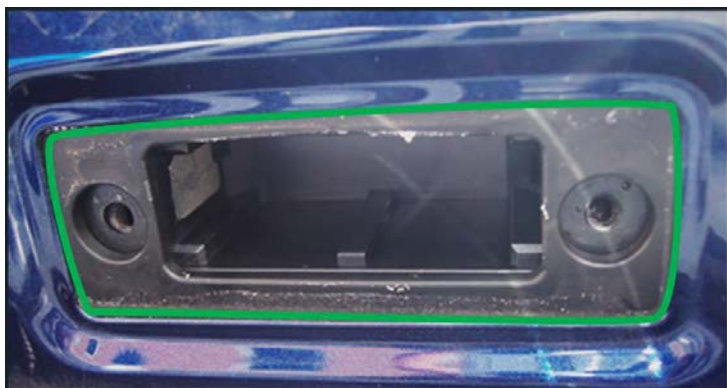

Figure 7: License plate light sealed off with butyl sealing cord
- Before installing the license plate light glass, seal off the contact surface with butyl sealing cord (part number AKL 450 005 05, Figure 7).